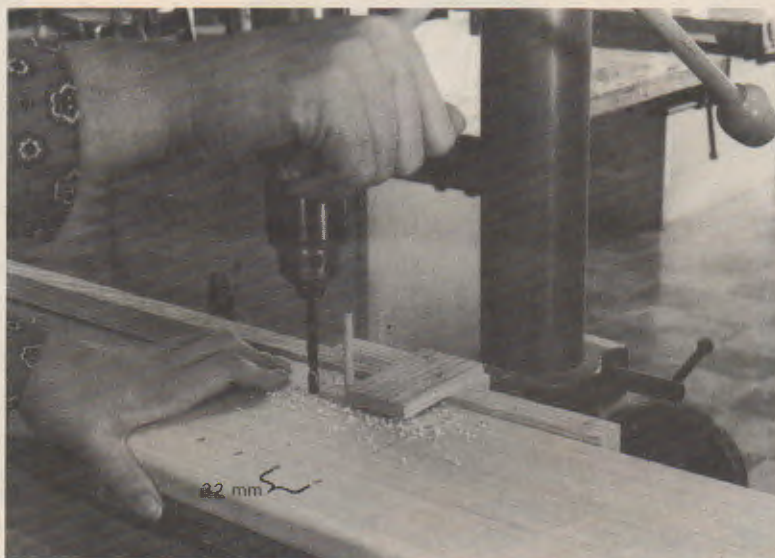

Fig. 38-18. You can drill individual 5 mm holes for the 32 mm system using a jig.
1. Multiple-spindle boring attachment for the drill press. (Drilling equally spaced holes can also be done with a jig, Fig. 38-18.)